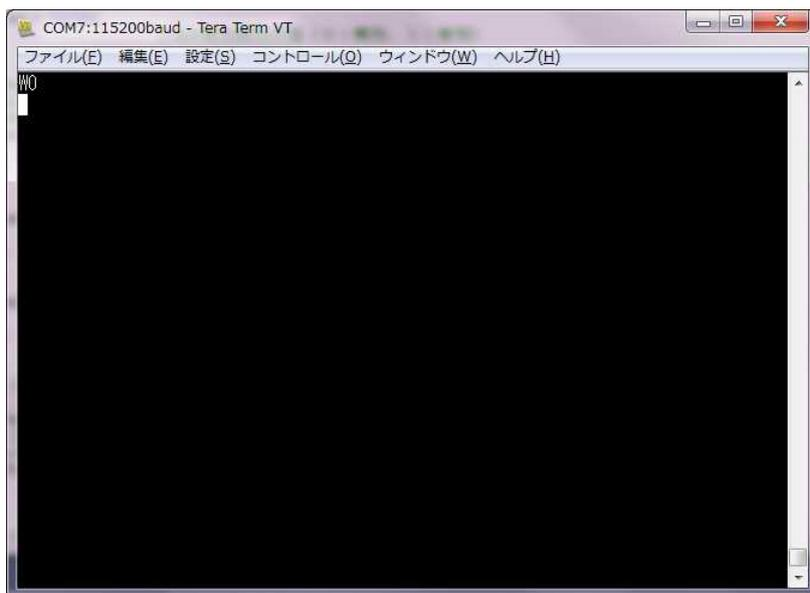

Fig. 6-1
- (1) Insert the microSD card into the PC.
- (2) Create the folder that “pixsbmp” in the root directory and copy the image data in the CD ROM to the folder.
- (3) Remove the microSD card from the PC and check if the LCDC board power is OFF. Then, insert the microSD card into the microSD card connector (CN2).
- (4) Turn on the LCDC board power and start up the communication software.
- (5) Input the characters “W0”, as shown in Fig. 6-1. Then, press the return key to transmit the characters.